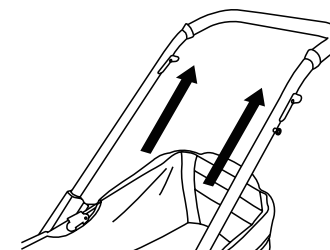

Fig. 1b
- Unfold the stroller frame by pulling the stroller handle upward until it clicks into locked position (Fig. 1b).